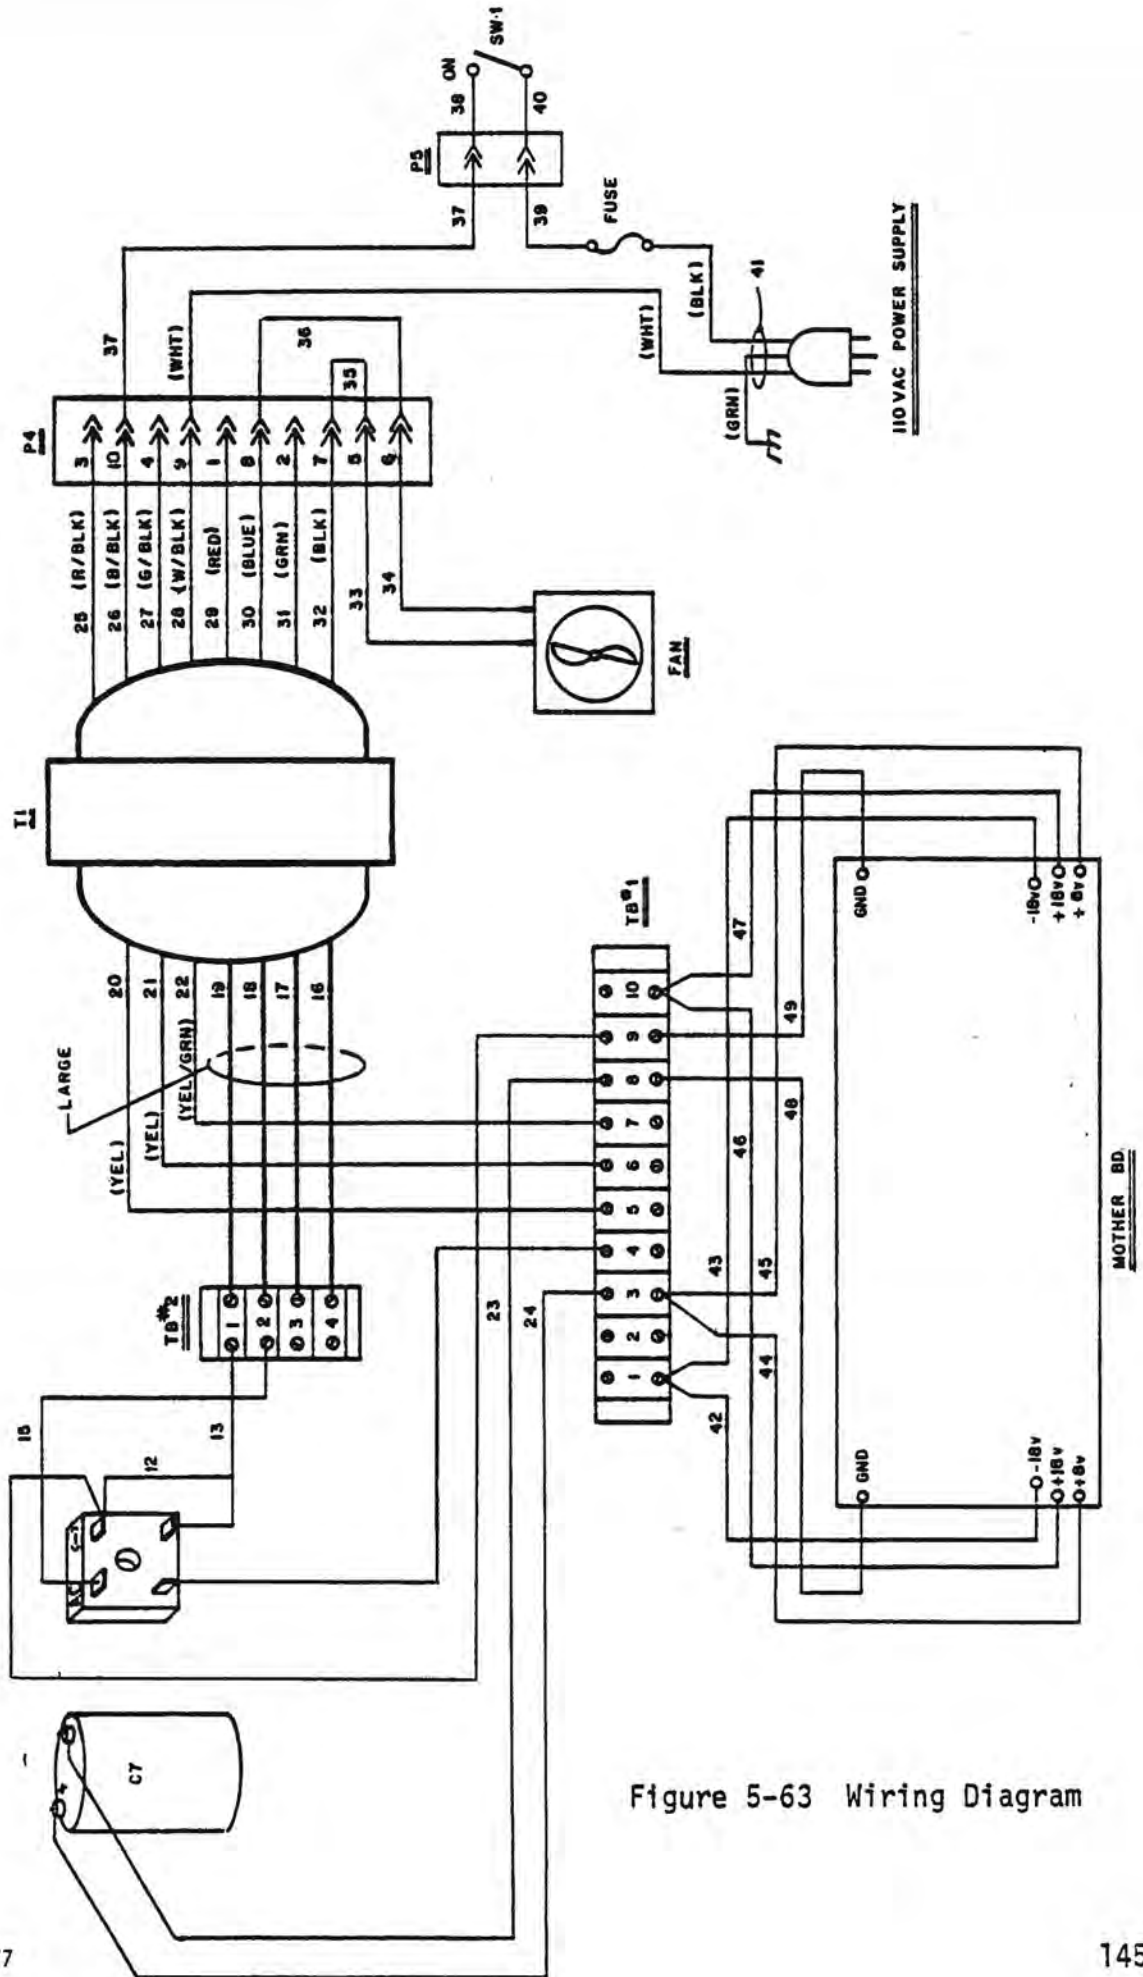

Figure 5-63 Wiring Diagram
4. Attach the A size terminal ends to the bridge rectifier terminals. Using masking tape, label the 4-inch wires 13 and 15, and the 19-inch wires 14 and 12. (See Wiring Diagram, Figure 5-63.) With the front of the computer facing you, attach wire 12 to terminal #9 of the lower terminal block. Attach wire 13 to terminal #1 of the upper terminal block. Attach wire 14 to terminal #4 of the lower terminal block. Attach wire 15 to terminal #2 of the upper terminal block.
2. Attach wires 13 and 15 from the bridge rectifier to terminals 1 and 2 of the terminal block (TB2) as shown in the wiring diagram (Figure 5-63).